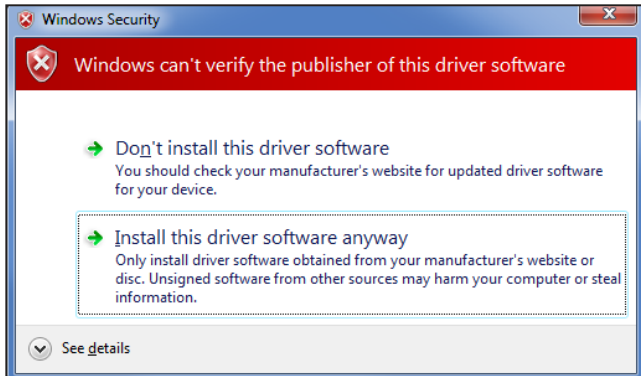
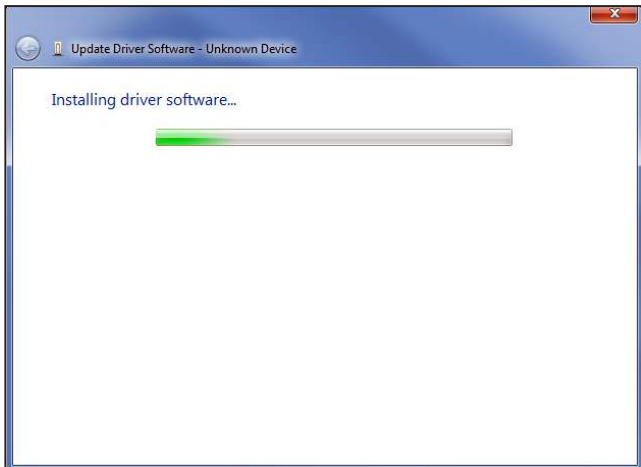

Figure 13. Windows Unverified Publisher Driver Install Warning
Figure 14. Driver Software Installer Progress Indicator
5) A notification that Windows cannot verify the publisher of this driver software appears. This notice is normal, and the driver has been verified to work with Windows Vista and Windows 7. Click **Install this driver software anyway** to continue with the driver installation. See Figure 13. The dialog box switches to a progress bar and indicates that the HC9S08JMxx CDC driver is being installed. The driver installation should complete in a relatively short time. See Figure 14.